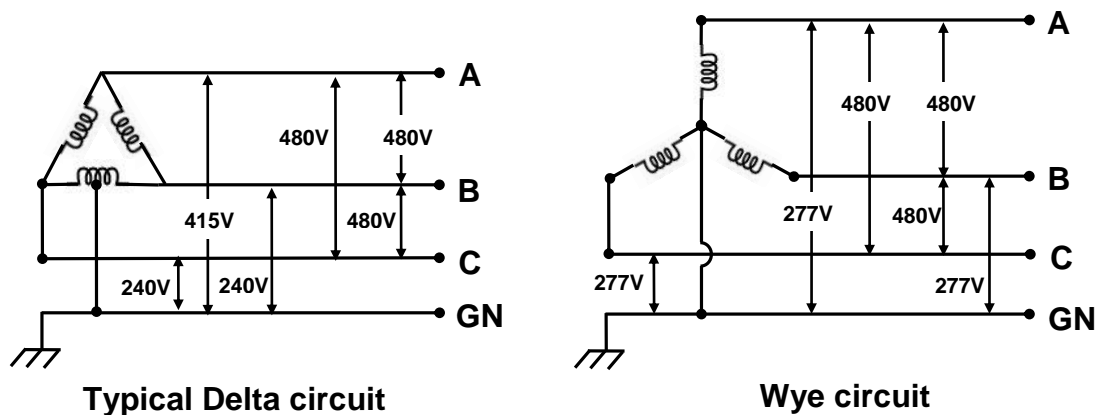

Figure 9: AC input wiring diagrams
1. PowerCharge™ iHF3 chargers require a 480 VAC 3 \emptyset , four-wire Wye or Delta electrical supply with a separate ground (Figure 9). Nominal 480 VAC current draw is 8.3 A; circuit disconnect at 125% should be 15 A.